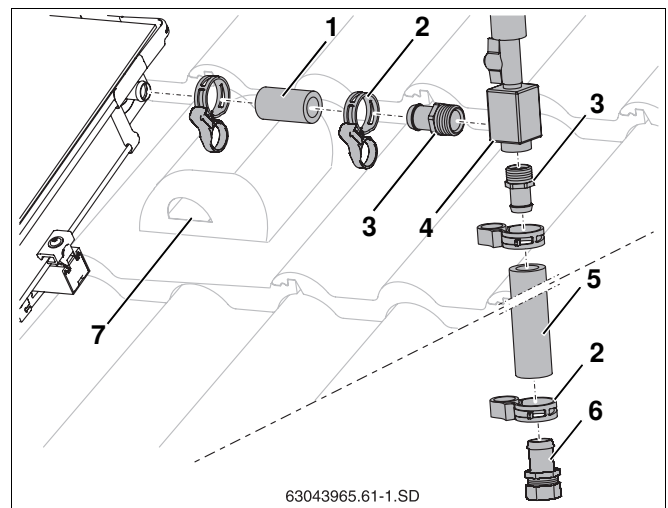

Fig. 57 Connecting the air vent valve on roof
- Push short solar hose (55 mm, Fig. 57, **Item 1**) onto the flow connection on the collector array and fix in place using hose clip.
- Firmly screw R $\frac{3}{4}$ hose nozzles with O-rings (Fig. 57, **Item 3**) into the air pot (Fig. 57, **Item 4**).
- Insert hose nozzles (Fig. 57, **Item 3**) into the solar hoses (Fig. 57, **Item 1** and **5**) as far as they will go, and fix in place using hose clips (Fig. 57, **Item 2**).
- Insert hose nozzle with compression fitting (Fig. 57, **Item 6**) into the solar hose as far as it will go, and fix in place with hose clip.
- Feed solar hose together with the sensor cable through the ventilation tile (Fig. 57, **Item 7**) and through the roof insulation.
- Connect header pipe to the hose nozzle with compression fitting (15 mm) (Fig. 57, **Item 6**).